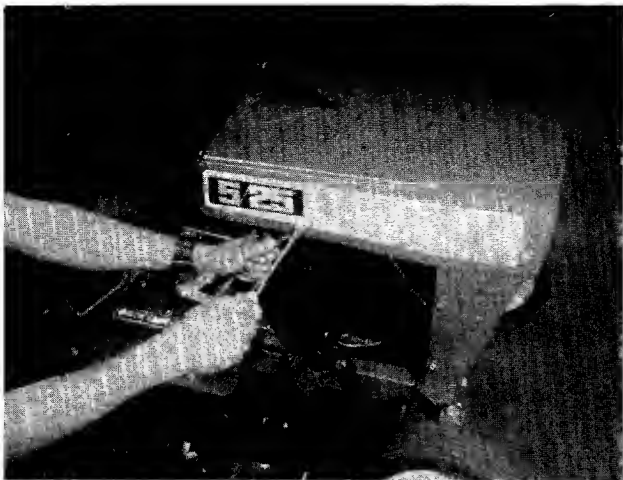

FIGURE 7.
4. Assemble the hood with long truss screws to the rear of hood, and the short truss screws to the front of hood. Fasten with lockwashers and hex nuts to the inside. See figure 7.